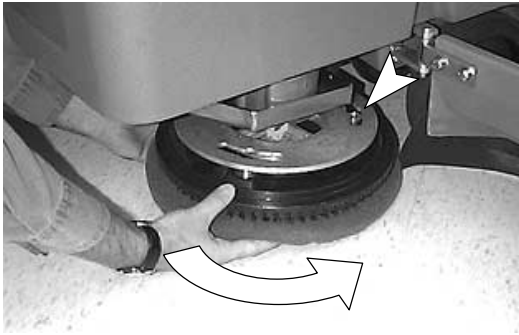

FIG. 9
- Align pad driver mounting studs with slots in motor hub. Give the driver a quick turn toward the motor hub spring clip. Be certain that spring clip locks into one of the studs before operating machine (*Figure 9*).